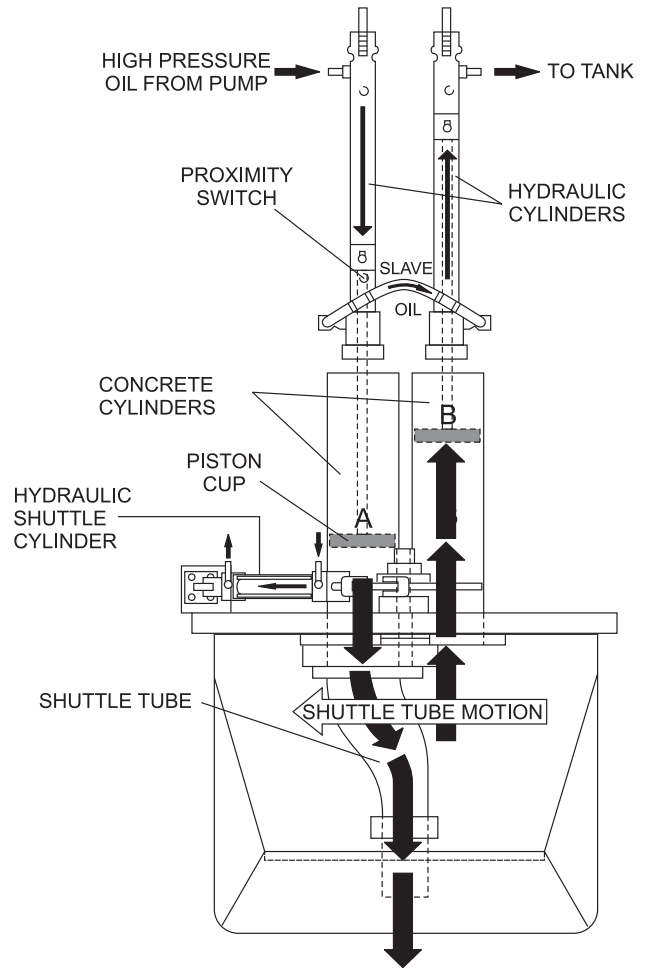

Figure 4. Pumping Cycle 2
The shuttle tube is sequenced to pivot to each concrete cylinder as the drive cylinders stroke to push concrete. As the second cycling sequence begins (Figure 4), the shuttle tube pivots to the opposite cylinder (A). The hydraulic piston passes under the proximity switch and sends pressure to the piston, causing it to stroke and discharge concrete into the delivery line. Hydraulic oil is transferred through the slave circuit to cylinder B, causing it to start a suction stroke, refilling it with concrete. The pumping sequence then repeats for the duration of the operation.